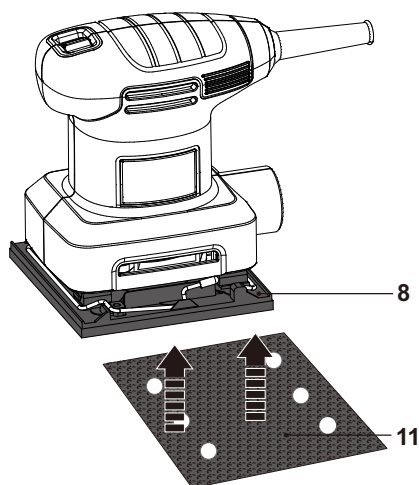

Fig. 1
- > Align the hole pattern of the sanding paper (11) with the one in the base plate (8) before attaching the sanding paper (11) to the plate to ensure efficient dust extraction and a satisfactory result.
- > Slightly press the sanding paper (11) to fix it to the base plate (8) (Fig. 1).